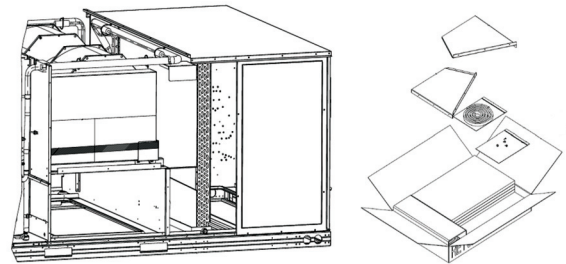

Fig. 20 — Barometric Hood Box Parts Location
2. Remove the side panels located in the hood parts box. (See Fig. 20.)